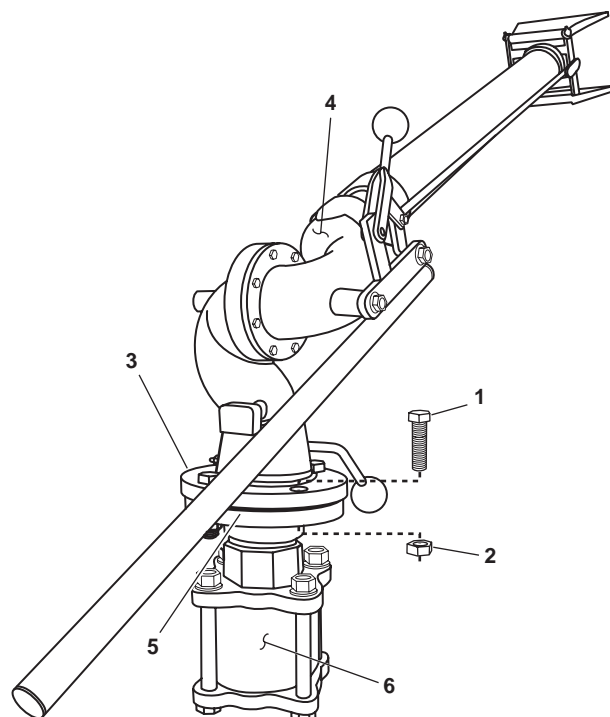

Figure 1. Fire Monitor
1. Remove the four bolts (figure 1, item 1) and four nuts (figure 1, item 2) from the fire monitor flange (figure 1, item 3).
2. Remove the fire monitor (figure 1, item 4).
3. Remove and discard the gasket (figure 1, item 5) from the fire monitor flange (figure 1, item 3).
1. Thoroughly clean the fire monitor flange (figure 1, item 3).
2. Position a new gasket (figure 1, item 5) on the fire monitor flange (figure 1, item 3).
3. Position the fire monitor (figure 1, item 4) on the valve (figure 1, item 6) and secure it with the four bolts (figure 1, item 1) and four nuts (figure 1, item 2).